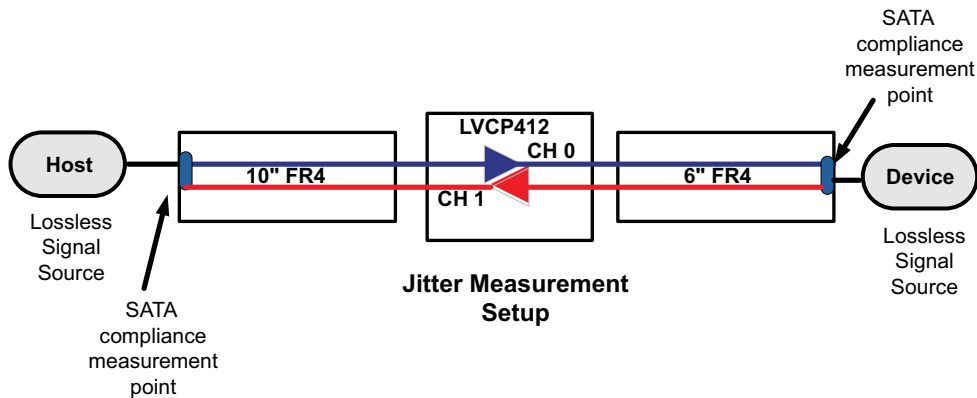

Figure 2. Jitter Measurement Test Condition
(1)  $T_J = (14.1 \times RJ_{SD} + DJ)$  where  $RJ_{SD}$  is one standard deviation value of RJ Gaussian distribution.  $T_J$  measurement is at the SATA connector and includes jitter generated at the package connection on the printed circuit board, and at the board interconnect as shown in Figure 2.